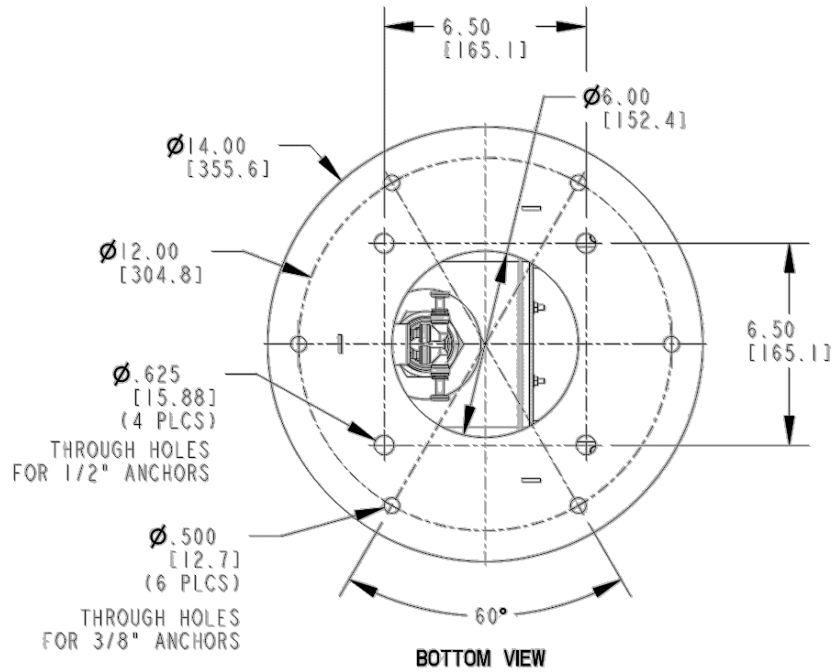

Fig. 3 – Bottom view
6. Install whole unit to the ground using 3/8" (6 places) or 1/2" anchors (4 places). See Fig.3 for reference. Anchors are not included. This bottle filler is to be mounted on a smooth, flat, finished surface with adequate support structure. Oasis can provide optional anchor assembly that can be delivered together with the unit.